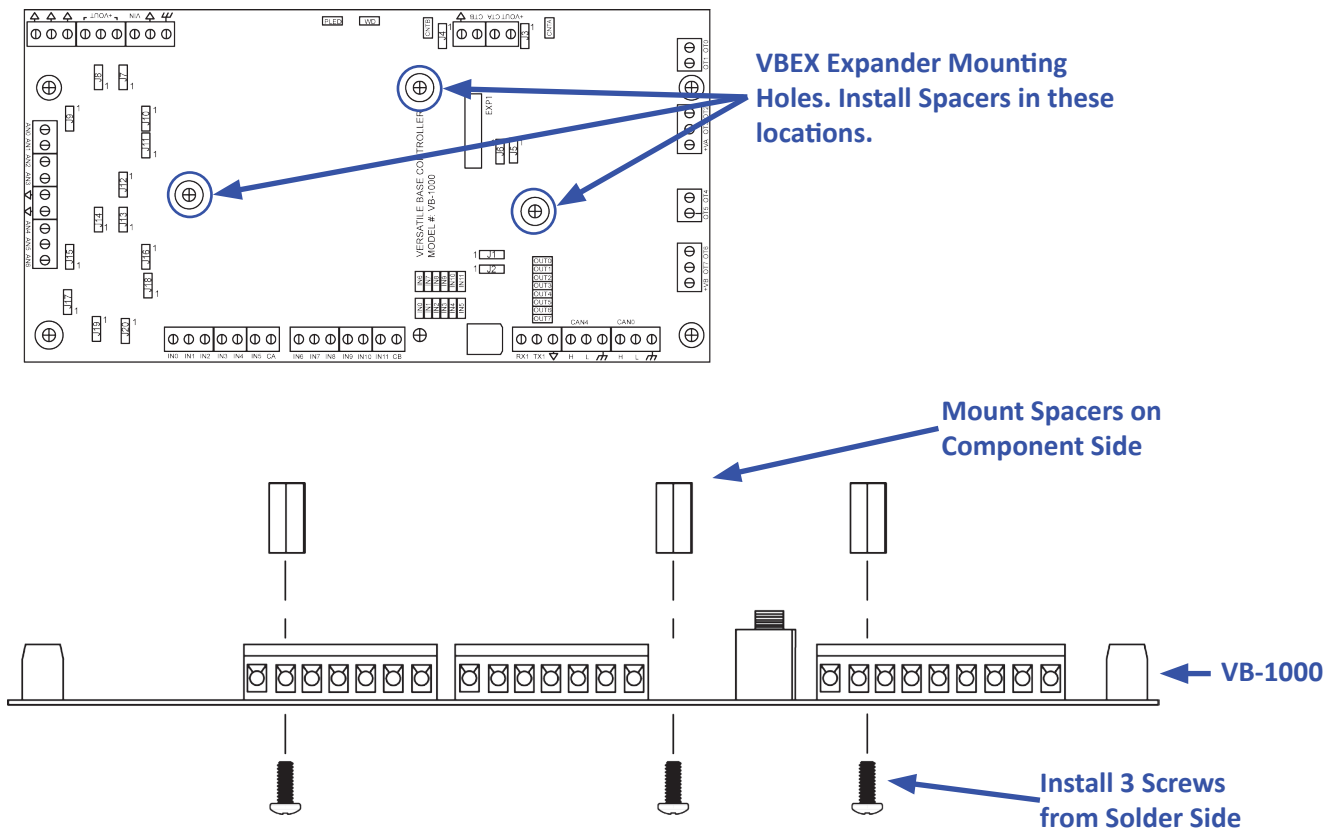

Figure 1.1 - Installation of Spacers
2. Using the 3 metal spacers and 3 of the screws provided, install the spacers on the VB-1000 controller in the provided expansion holes as shown in Figure 1.1. The screws will enter from the back (solder) side of the VB-1000 and the spacers will be located on the top (component) side of the VB-1000.